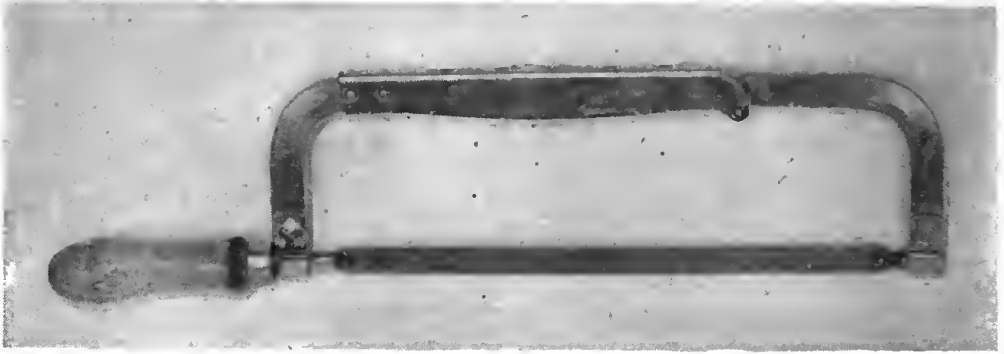

Figure 131. Hacksaw.
f. HACKSAWS. (1) A hacksaw (fig. 131) is used to cut metals and other hard materials. It usually has an adjustable frame into which blades of various lengths can be fitted. The position of the blade with respect to the frame may be varied. The blade is installed with the teeth pointing forward; the handle or a wing nut is turned to tighten the blade and hold it in place.